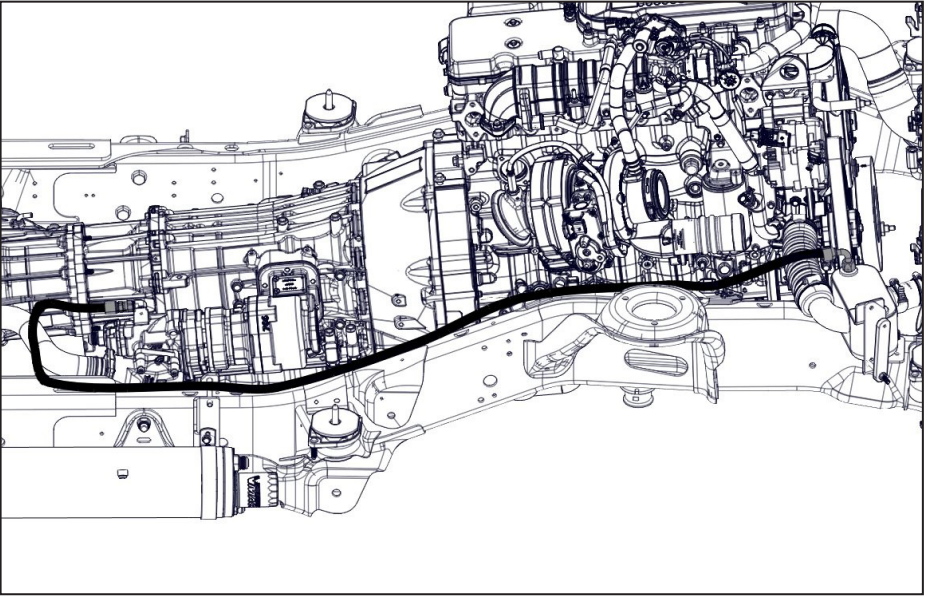

Figure 55 — Connect compressor oil supply hose
- ☐ Route the hose along the top of the frame rail, to the inside of the inner fender, and connect it to the compressor (Figure 55).